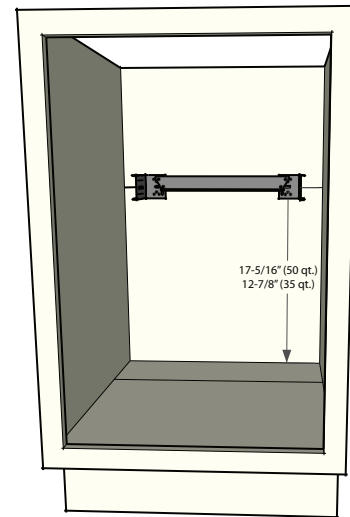

FIGURE 2A
Fasten the rear strap assembly to the rear cabinet wall using the (4) #8 x 5/8" pan head screws provided. The CENTER slot of each rear socket should be positioned 17-15/16" (for 50 qt. frames) or 12-7/8" (for 35 qt. frames) from the floor of the cabinet as shown in FIGURE 2A. It is best to start with two screws in the center slots in case adjustments are necessary. Make sure to center the strap assembly left to right according to the opening of the face frame. (SEE FIG 2A)